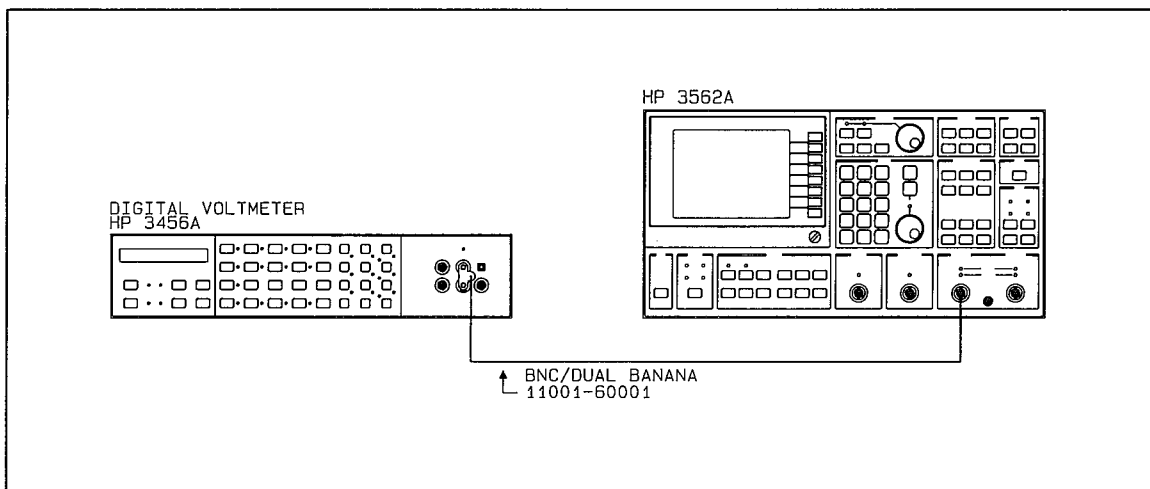

Figure 2-19 Input Resistance Test Setup
A. Connect the test instruments as shown in figure 2-19. Refer to "Initial Equipment Setup," paragraph 2-20, for unspecified parameters.